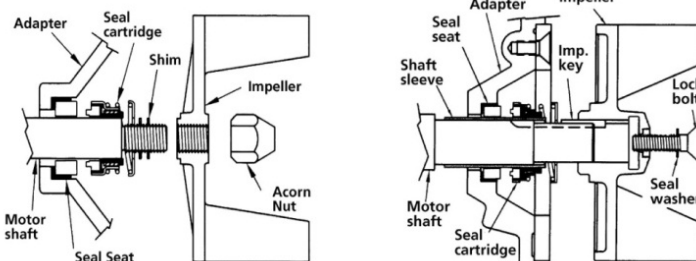

Figure 1 & 2 - Mechanical Seal Replacement
Should the mechanical seal, which consists of seal seat (Ref. No. 6), seal cartridge (Ref. No. 5), and shaft sleeve (Ref. No. 19, if applicable) require replacement, proceed as follows and refer to Figures 1 and 2. The seal should also be replaced if the adapter (Ref. No. 8) is to be replaced.
3. 316A-95 and 316B-95 (Figure 1): Remove impeller lock nut (Ref. No. 18). Unscrew impeller (Ref. No. 3) from the motor shaft. Use a rubber mallet or soft block of wood to loosen impeller. Turn it counterclockwise. Remove the impeller shim (Ref. No. 4) and seal cartridge (Ref. No. 5).